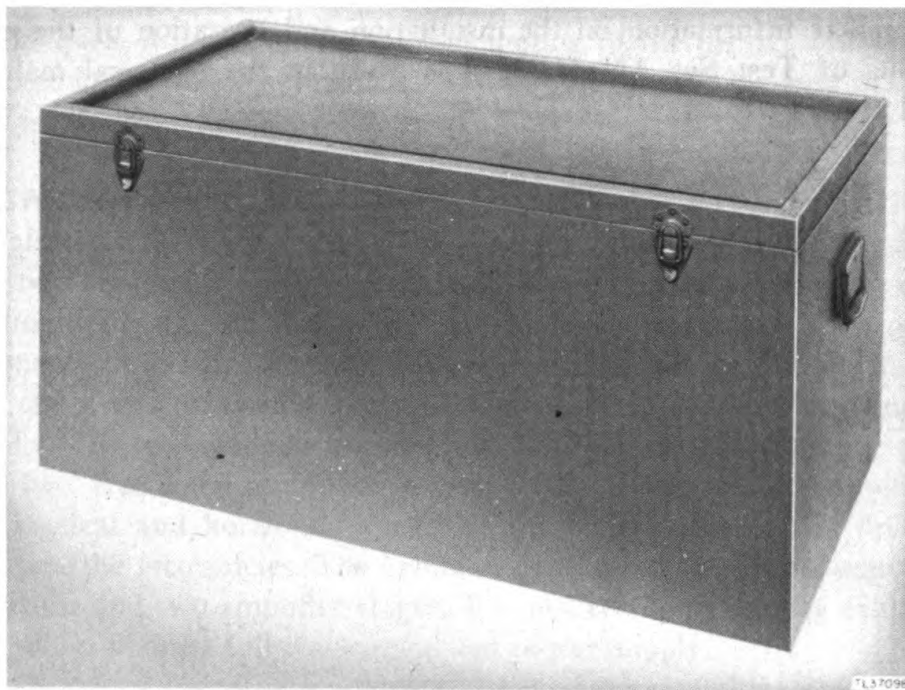

Figure 4. Chest CH-273, front view.
6. CHEST CH-273 (fig. 4).
Clean the chest (fig. 4) periodically to prevent dust and dirt from accumulating in the test sets when they are stored. Any broken or cracked places in the paint should be repainted after the old paint has been removed from the affected area. Use sandpaper to remove the paint and to prepare the surface for the new coat of paint.